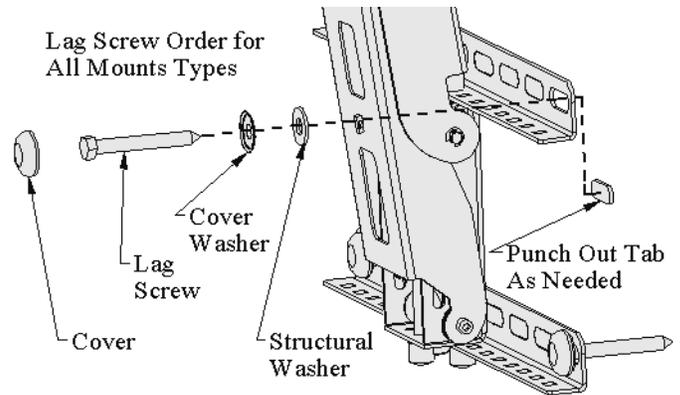

Figure 13, Lag Bolt and Washer Order
5. Figure 13 shows the correct order to put on the lag screw.
4. Figure 13 shows the correct order to put on the lag screw